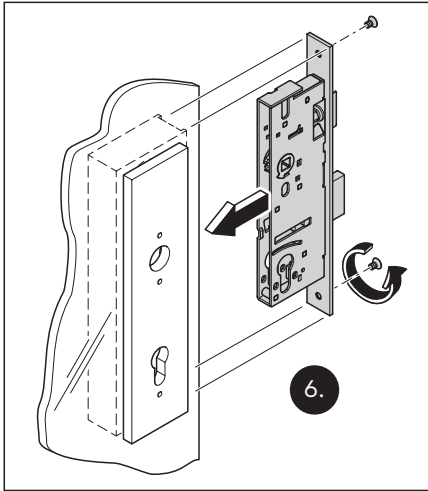

Fig. 24 Slide the lock insert into the mortise and fix in place
6. Slide the lock insert into the mortise and fix in place (Fig. 24).